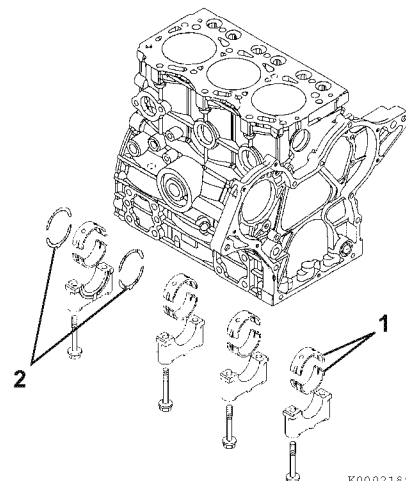

Figure 6-92
2. Install new bearing inserts (Figure 6-92, (1)) and thrust bearing (Figure 6-92, (2)) in the cylinder block and main bearing caps. Be sure the oil holes in the upper bearing shells align with the oil ports in the cylinder block. Apply a liberal coat of clean engine oil to the bearings and crankshaft journals.